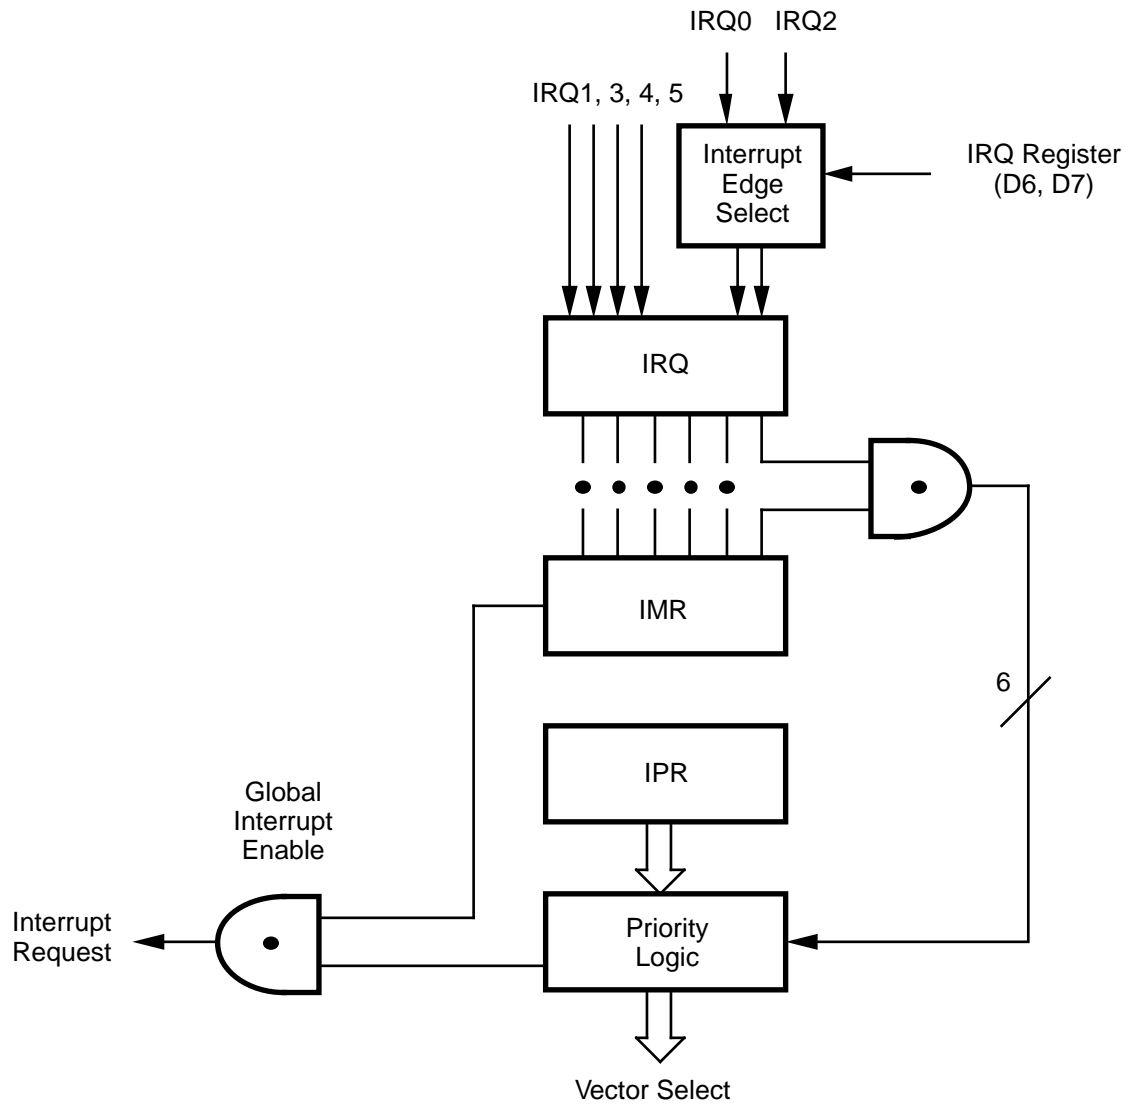

Figure 21. Interrupt Block Diagram
**Interrupts.** The Z8 has six different interrupts from six different sources. The interrupts are maskable and prioritized (Figure 21). The six sources are divided as follows; three sources are claimed by Port 3 lines P33-P31, two in counter/timers, and one by the DSP (Table 4). The Interrupt Mask Register globally or individually enables or disables the six interrupt requests. When more than one interrupt is pending, priorities are resolved by a programmable priority encoder that is controlled by the Interrupt Priority Register. An interrupt machine cycle is activated when an interrupt request is granted. This disables all subsequent interrupts, pushes the Program Counter and Status Flags to the stack, and then branches to the program memory vector location reserved for that interrupt.